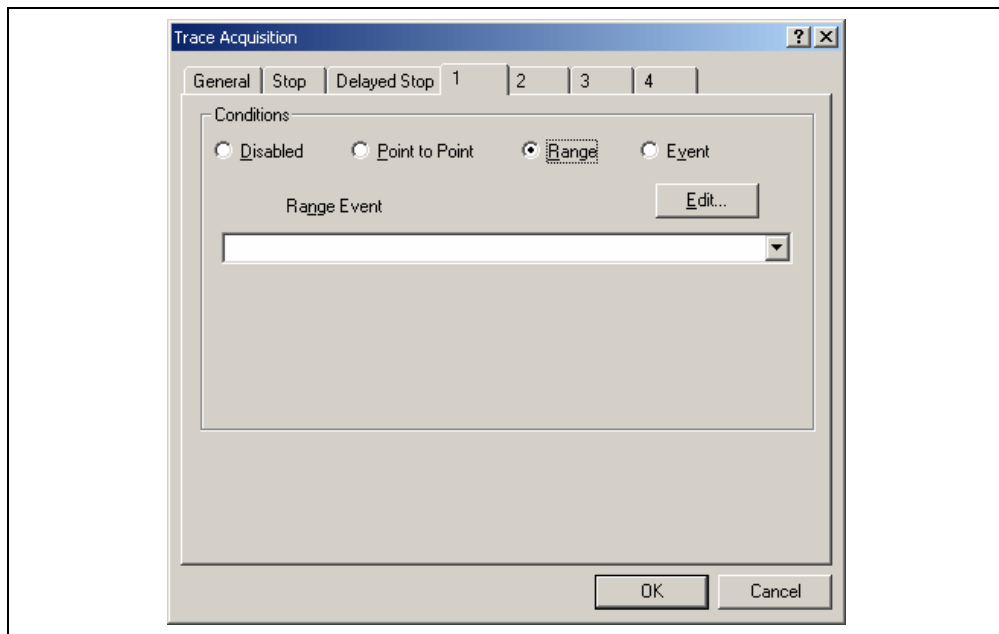

Figure 6.46 [Trace Acquisition] Dialog Box (Displaying Page [1])
- (8) Select page [1] and click the [Range] radio button in the [Conditions] group box. This will display the [Range Event] combo box and the [Edit...] button (see figure 6.46, [Trace Acquisition] dialog box).
- (9) Click the [Range Event] combo box to select the event you have registered. The event is now enabled. Click the [OK] button to complete the trace setting.